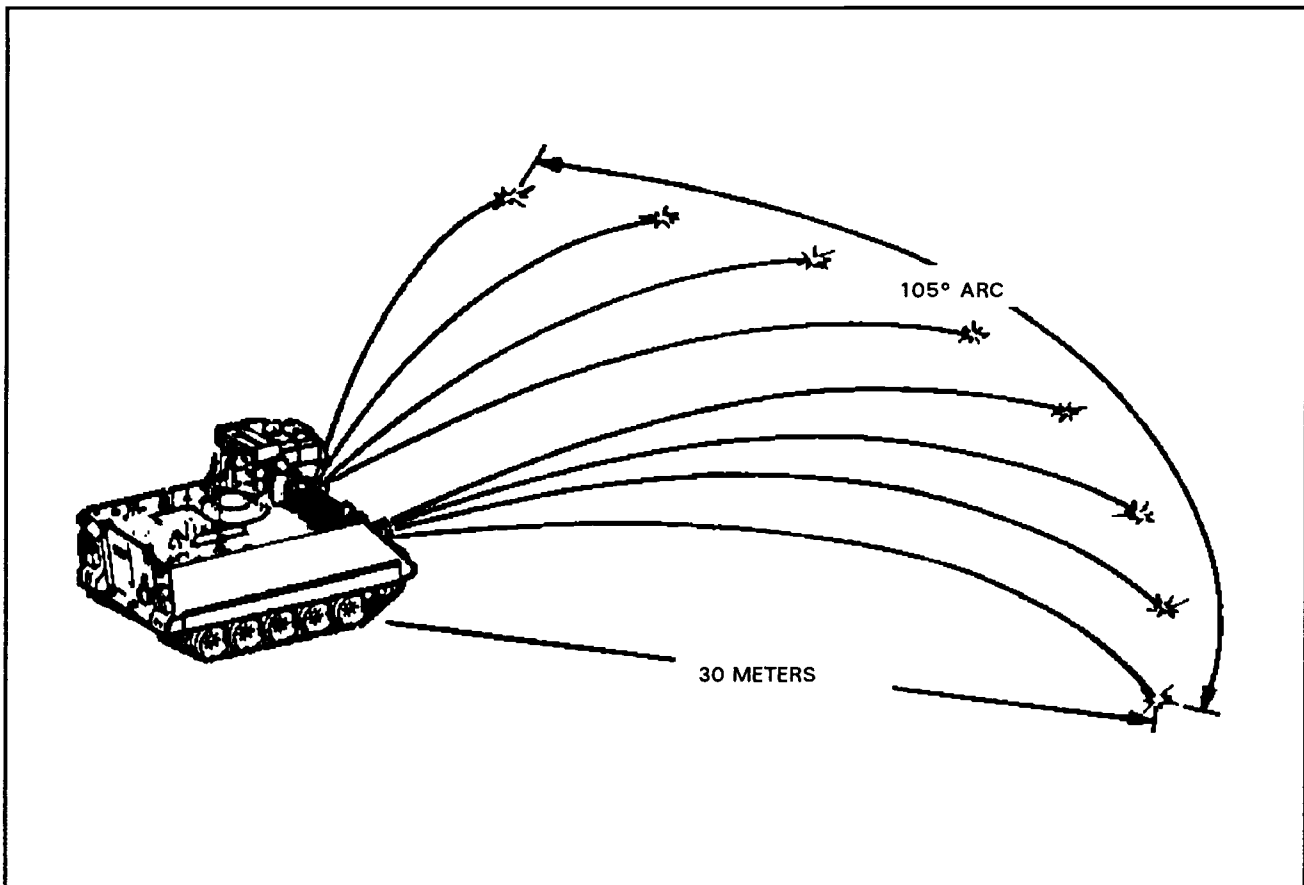

Figure 4-16. Pattern of detonation.
b. Fire the Smoke Grenades. Eight grenades detonate in about a 105-degree arc 30 meters from the vehicle. The smoke cloud is about 9 meters high and lasts about one to three minutes, depending on wind (Figure 4-16). The front of the vehicle is facing the area where the smoke is to conceal the movement of the vehicle. The gunner places the smoke launcher ARM-OFF switch to ARM. He presses the FIRE button when ready to fire.